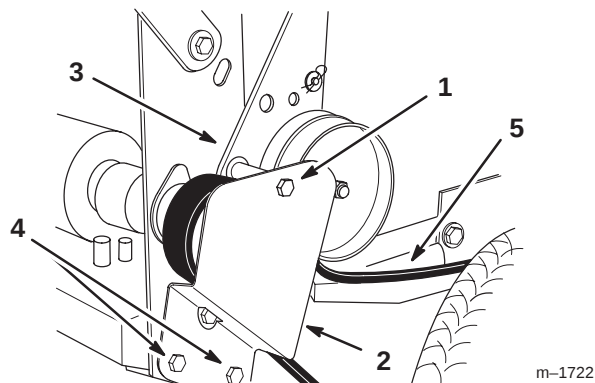

Figure 62
1. Remove the top capscrew securing idler support and idler bracket to rear frame (Fig. 62).
2. Loosen bottom two mounting screws enough to allow belt to pass between drive pulley and idler support (Fig. 62).
5. Install the top capscrew securing the idler support and idler bracket to the rear frame (Fig. 62).
6. Tighten the bottom two mounting screws enough to allow the belt to pass between the drive pulley and idler support (Fig. 62).